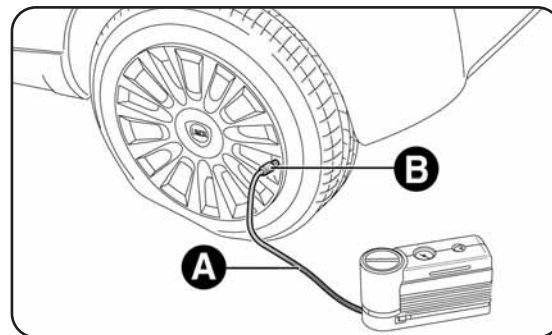

fig. 4
- Engage the handbrake. Unscrew the tyre valve cap, take out the flexible filling pipe A-fig. 4 and screw down the ring nut B on the tyre valve;